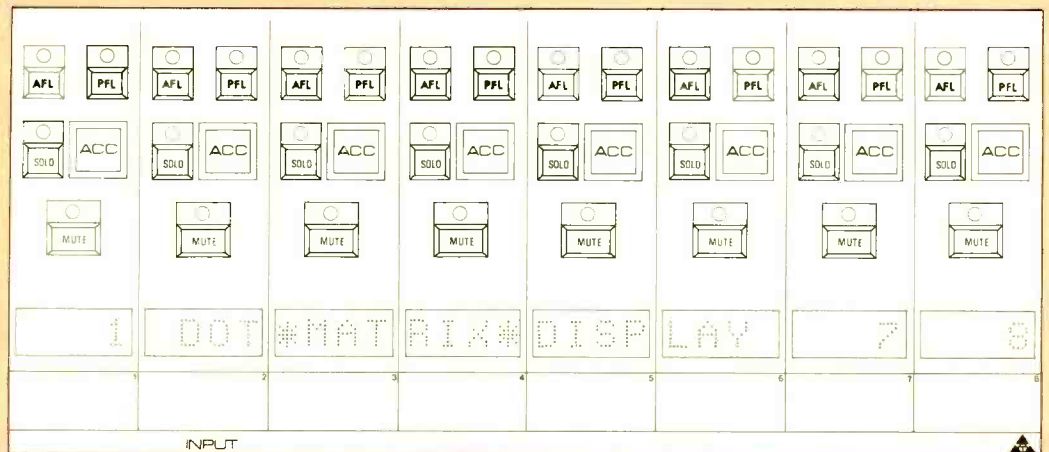

Fig 1: Input access section
The input section of the console comprises three central control panels (each about the size of an A4 sheet of paper) and separately consists of: equalisation, auxiliary sends (24) and input selection, level, routing and panning. Directly above the faders are the access panels shown in Fig 1. Each panel caters for eight inputs and provides individual channel access, mono after-fade listen, pre-fade listen, stereo solo, mute and automute. A 4-character alphanumeric display per input makes it possible to memorise and load from disk, information pertaining to that input. A conventional writing strip is also provided below the display for additional information that does not need to be memorised.